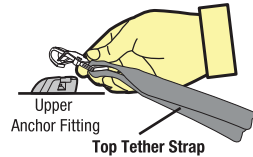

Figure 1
- Step 2:** Attach the top tether strap to the vehicles Upper Anchor Fitting (refer Figure 1).